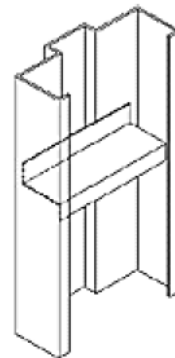

Figure 5
3. Steel Stud Anchors: (Figure 5) The steel stud anchor welded to the back of the jamb is used on custom frames and meets fire rating requirements.
2. Anchoring: Figure 5. Anchors should be located at the hinges in the hinge jamb and at a corresponding position in the strike jamb. See anchor spacing information in Part 2.B.10.b.